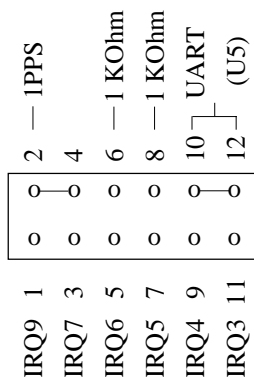

Figure 4. Interrupt jumper block JP1 configuration.
1) Pins JP1-10 and JP1-12 are connected to the interrupt request signal of the UART (U5), as shown in Fig. 4. JP1-12 can be jumpered to a desired interrupt, IRQ4 thru IRQ9 of JP1, using a wire-wrap type connection. A 1K Ohm resistor is available for pulling down the interrupt connection by installing a jumper from JP1-8 to JP1-10.
as shown in Fig. 4. JP1-2 can be jumpered to a desired interrupt, IRQ4 thru IRQ9 of JP1, using a wire-wrap type connection. A 1K Ohm resistor is available for pulling down this interrupt connection by installing a jumper from JP1-4 to JP1-6.